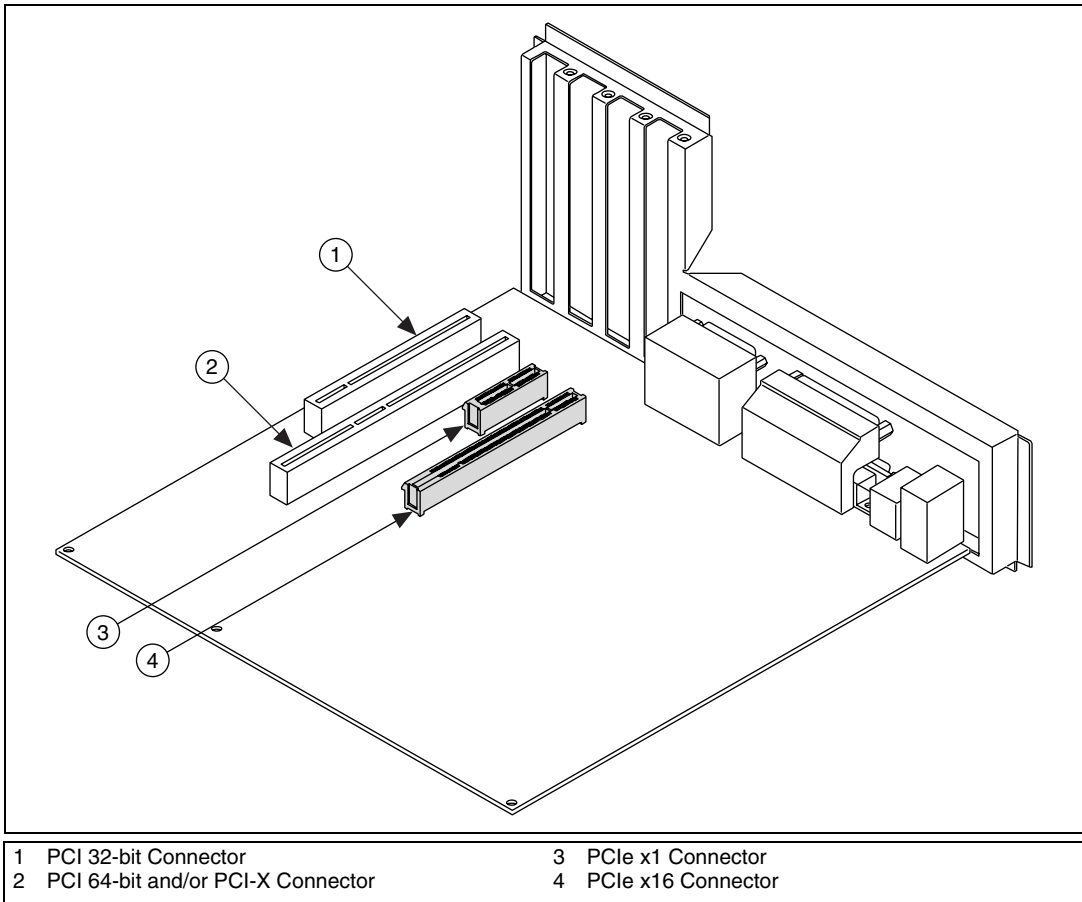

Figure 1. PC Expansion Slots
4. Choose an unused x1 or larger PCIe slot, and remove the corresponding expansion slot cover on the back panel of the computer. Figure 1 shows the different types of expansion slots available on most computers.